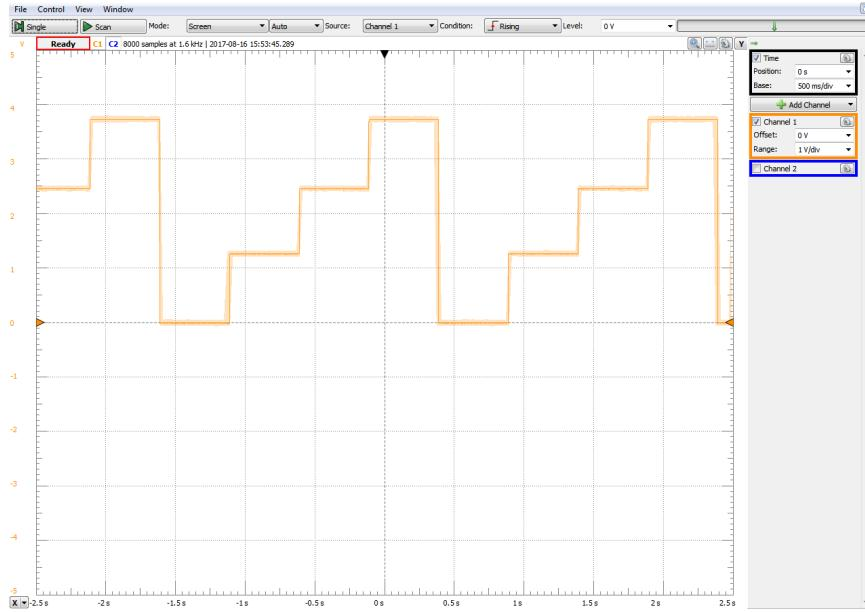

Figure 3.7: The desired output for the R-2R ladder circuit with the appropriate inputs.
4. The output should look like the Scope image in Figure 3.7